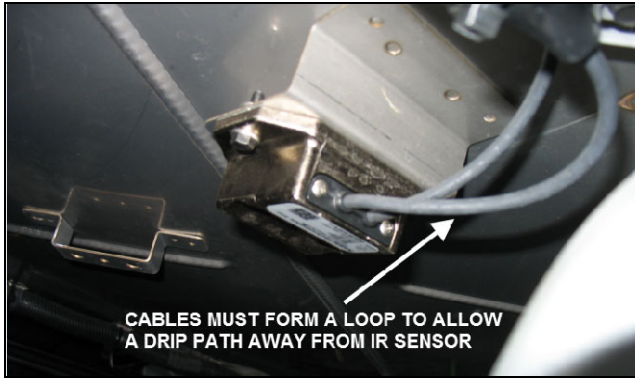
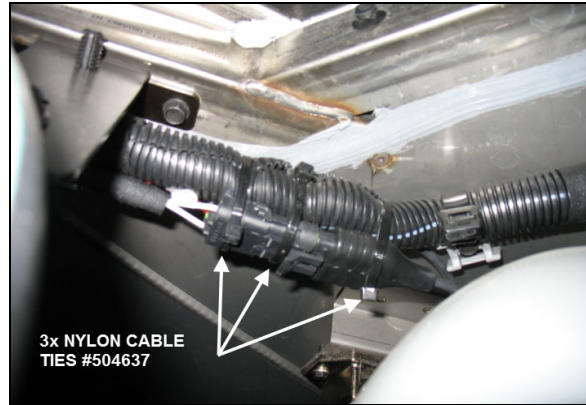

FIGURE 34
FIGURE 35
- 2) Connect the interface harness to the IR sensor (FIGURE 34).
- 3) Secure the interface harness connectors to close existing harness using three nylon cable ties #504637. The IR sensor cables must form a loop to allow a drip path away from the IR sensor (FIGURE 34, FIGURE 35).